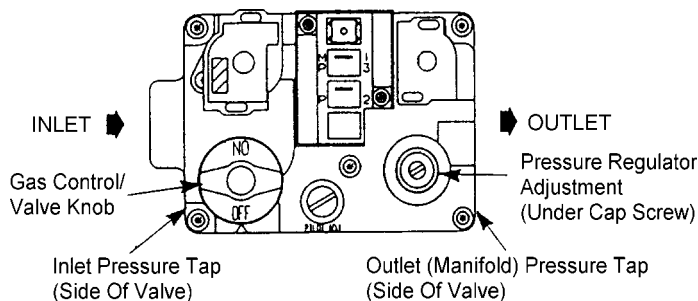
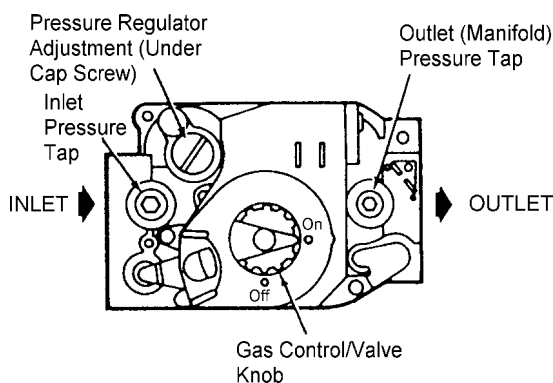

**Figure 4**
**Figure 5**
6. *White Rodgers Model 36E36 or 36E37 or Honeywell Model VR-8205:* Turn the gas control knob clockwise to the OFF position for either the White Rodgers gas valve (Figure 4) or the Honeywell gas valve (Figure 5).
- White Rodgers Model 36E36 or 36E37 or Honeywell Model VR-8205:* Turn the gas control knob counter-clockwise to the ON position for either the White Rodgers 36E gas valve (Figure 4) or the Honeywell VR-8205 gas valve (Figure 5).
4. *White Rodgers Model 36E36 or 36E37 or Honeywell Model VR-8205:* Turn the gas control knob clockwise  to the OFF position for either the White Rodgers gas valves (Figure 4) or the Honeywell gas valve (Figure 5).